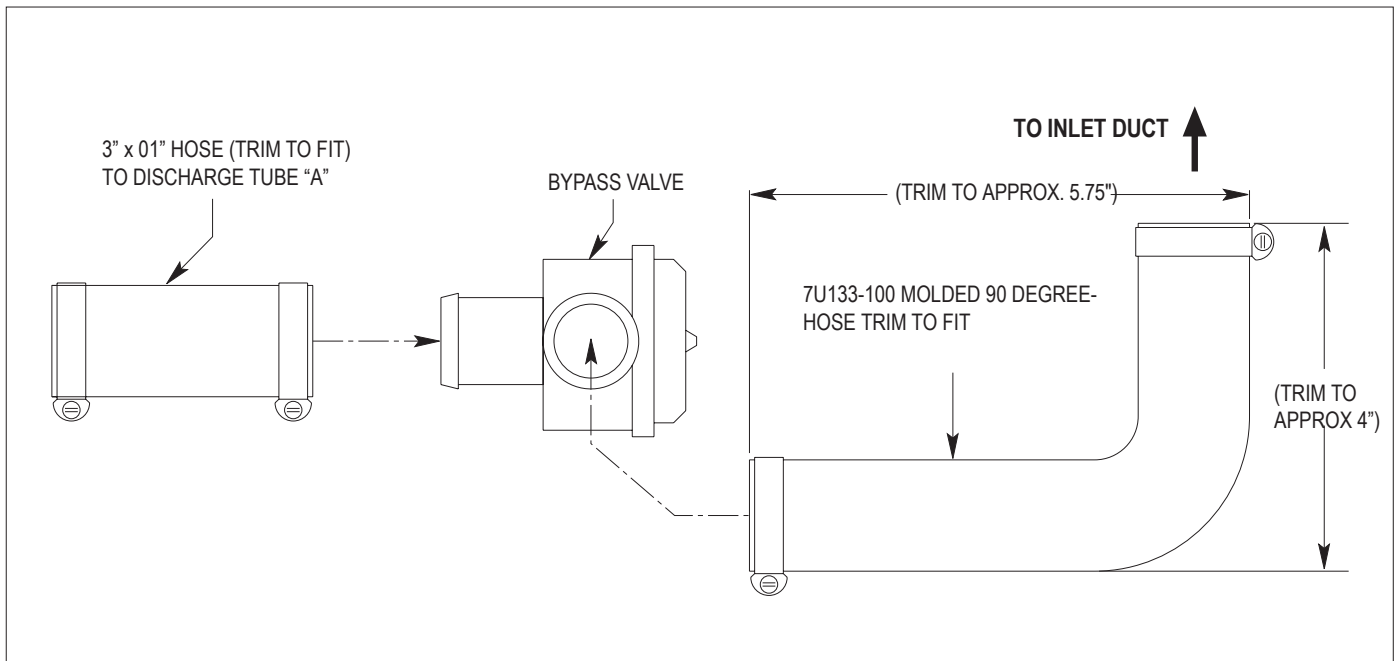

Fig. 8C-a
2. Locate the 1" molded rubber 90° elbow and cut approximately 6" from the long end and 1" from the short end. Attach the long end to the by-pass valve discharge and secure using the #16 hose clamps provided. (See Fig. 8C-a, 8D-c.)